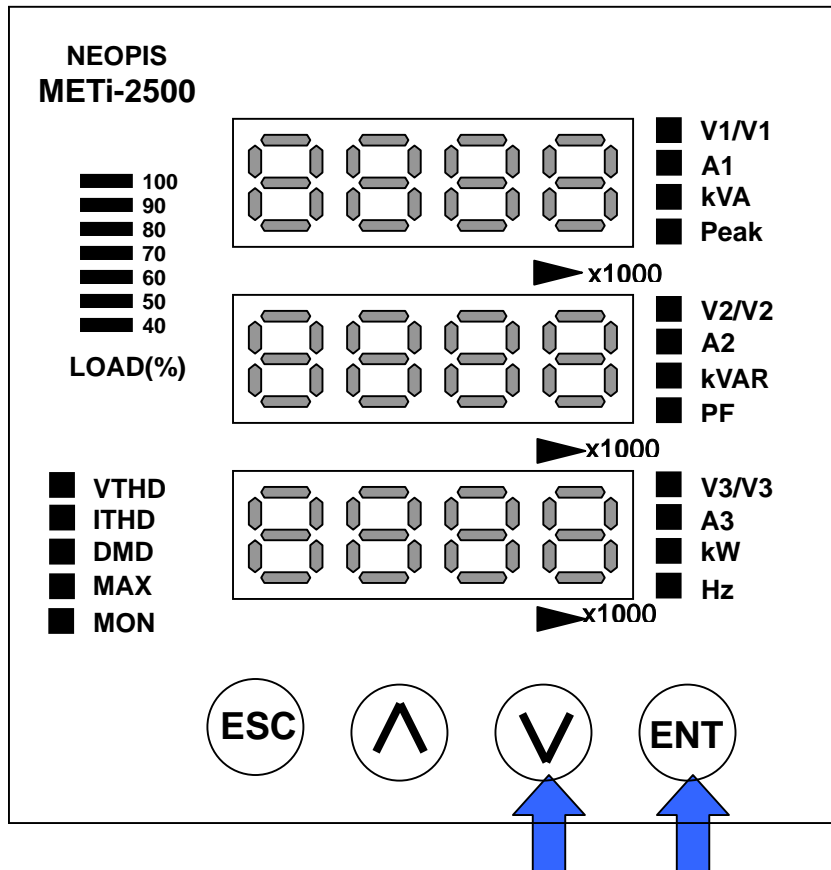
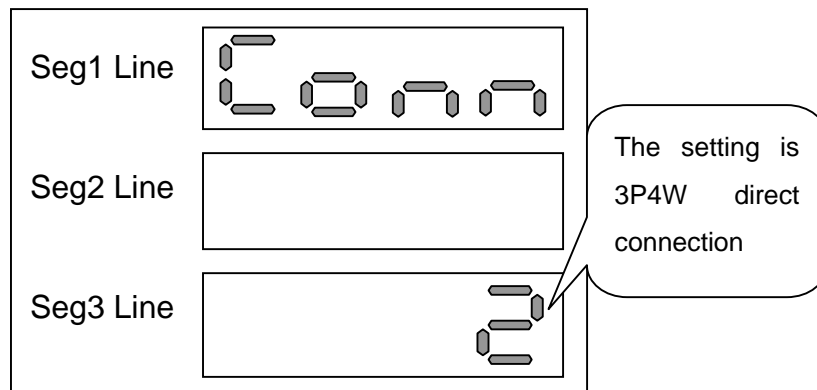

Figure 12) To enter the setup mode
Figure 13) The initial screen of setting
Press the Down (V) and Enter (ENT) keys simultaneously for three seconds, referring to figure 12. Then, as is shown in figure 13, the first item of the setting menu, the setting of the connection mode will appear.